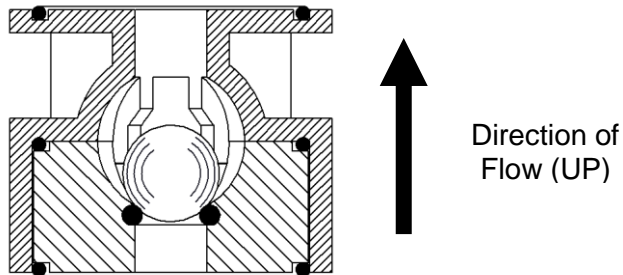

Figure 13: Cartridge Check Valve
5. Reinstall both new valve assemblies. For both the suction and discharge the valve orientation should be as shown in Figure 13.